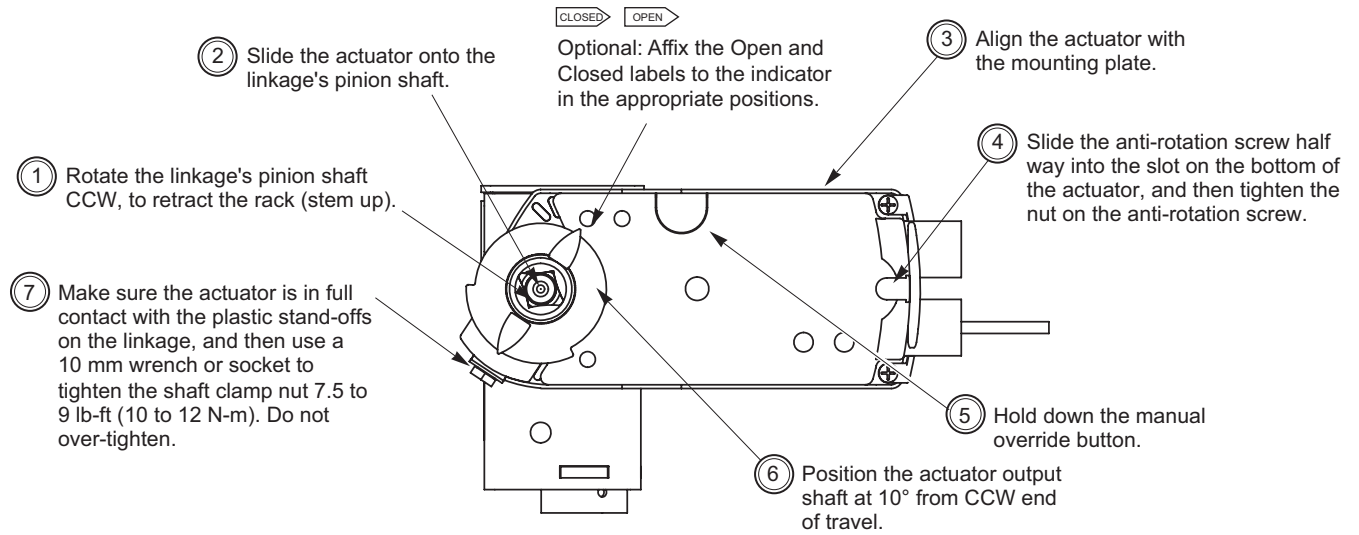

Figure-12 Mounting MX41-6153 and Setting up Actuator/Linkage/Valve Assembly.
- a. Install the actuator onto the linkage and valve, and set up the assembly, according to Figure-12.